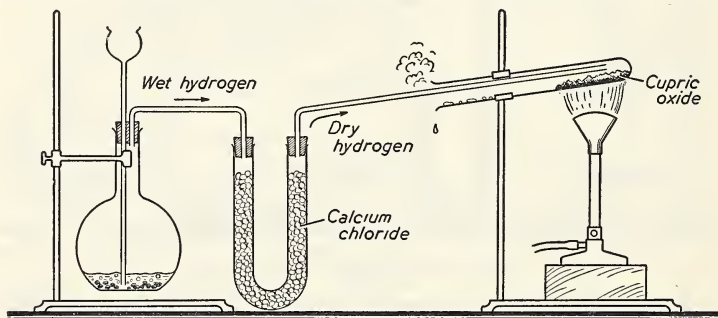

Fig. 38. Reducing cupric oxide with dry hydrogen
1. Arrange the apparatus as in Figure 38. Spread the cupric oxide evenly along the tube, and make certain that the glass delivery